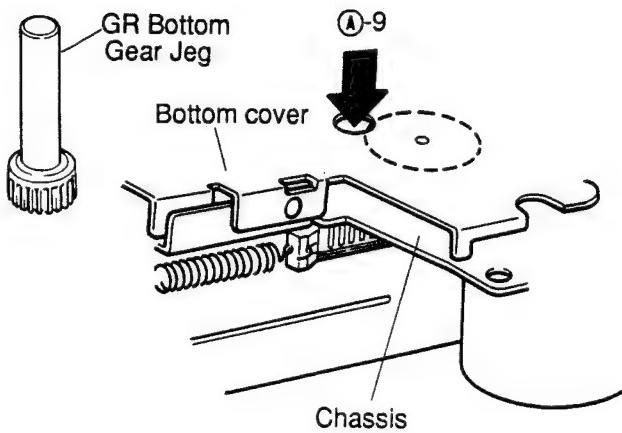

Figure 4
- (12) Since the hooks marked ④-8 will be lifted slightly as shown in Figure 4, insert the jig through the hole ④-9, and fix it turning the jig slightly.
(Refer to Figure 4 and 5.)
(14) Insert the jig into the hole A-9 as shown in Figure and rotate the eject solenoid counterclockwise about 20 times, pulling it in the direction A-10 with the finger. Then the eject operation is completed. Instead of operation (14), the eject operation can be performed by mounting the mechanism to the product. (Refer to Figures 4 and 5.)